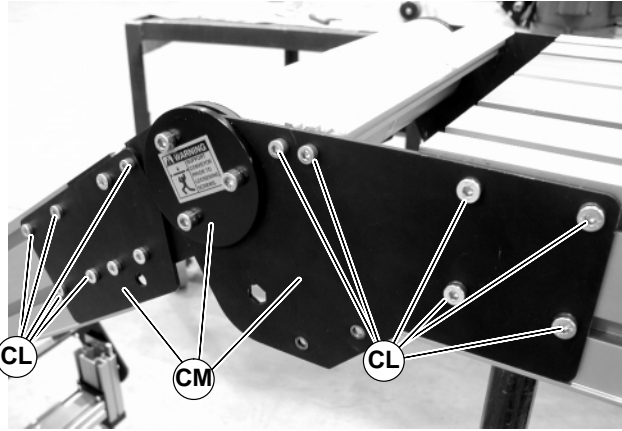

Figure 72
3. On one side of knuckle, remove screws (CL of Figure 72) and knuckle plate assembly (CM).